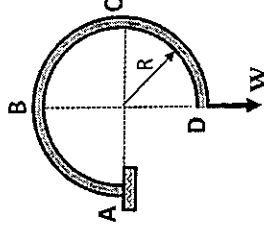

Figure 2
- (ii) Calculate the applied force P in newton (N), if the bar dimension $L = 1.0$ m, the angle, $\theta = 60^\circ$, the spring stiffness, $k_1 = 1000$ N/m and $k_2 = 1000$ N/m respectively. (2 marks)
(b) A cantilevered curved beam (A-B-C-D) is subjected to a load, W , at the free end (D) as shown in Figure 2. Using the Unit Load method (consider only bending effects and state clearly your datum), determine the following: